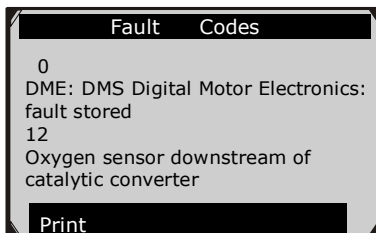

Figure 4.2
- 3) Review selected data on the screen. (Figure 4.2)